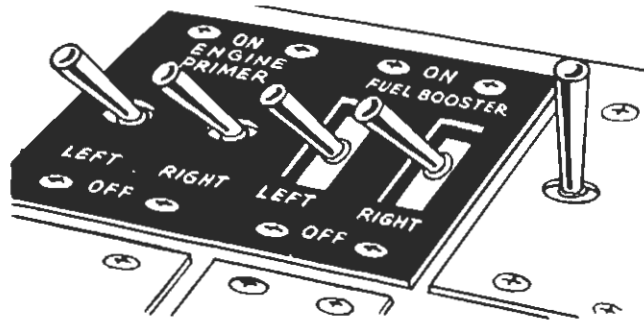

Figure 54—Primer and Booster Switches
(6) Switch left-hand booster pump "ON" and prime left engine. Priming time will vary from no prime for hot engines to approximately 10 seconds for cold engines. (See figure 54.)